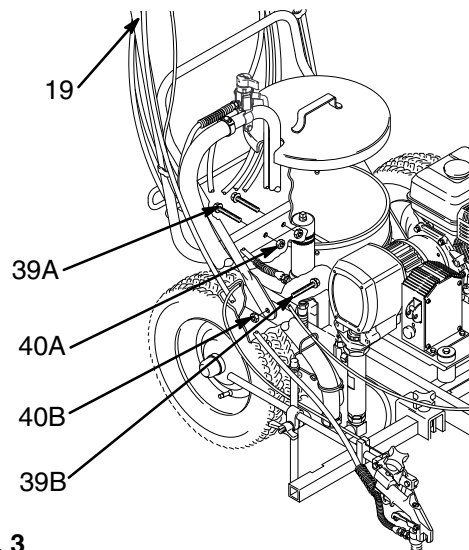

Fig. 3
2. Unpack the LineLazer Carefully raise the handle (19) to a vertical position. Four screws (39) and locknuts (40) are packed in a bag. Install the two rear screws (39A) and finger tighten the nuts (40A). Install one screw (39B) and nut (40B) on each side of the handle. Firmly tighten all four nuts. See Fig. 3.